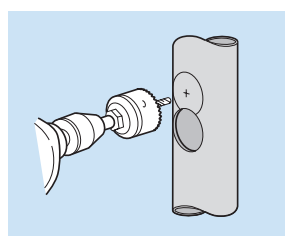

Fig. 51
- Drill two overlapping holes of correct size at 1¾" centres (Fig. 51).